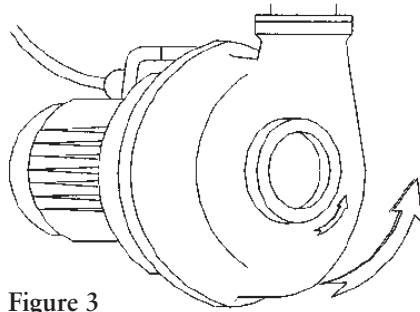

Figure 3
- Put the pump in horizontal position and start the pump. Look at impeller through the suction opening, the correct direction of rotation is counterclockwise (see arrow on pump casing, Figure 3). or: